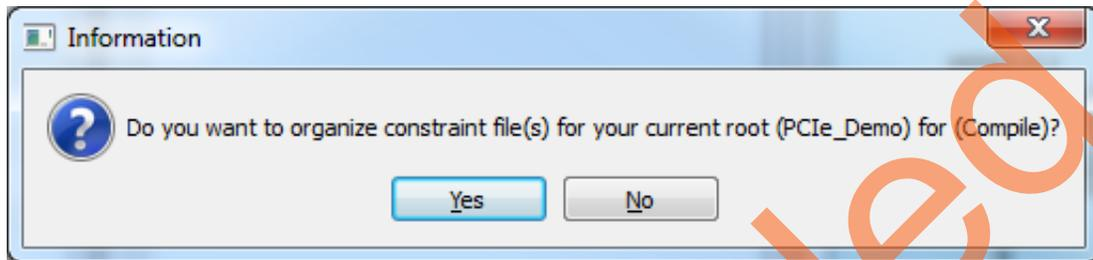

Figure 46 • New Figure Information window
3. Click Yes in **Information** window as shown in Figure 46.